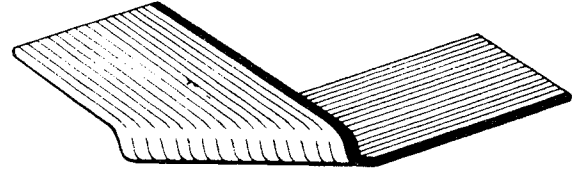
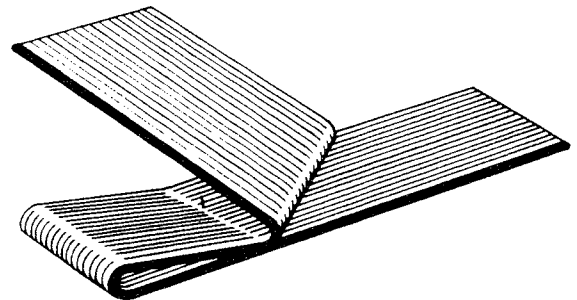

Figure A9 Right Angled Bend - Single Fold
Figure A10 Right Angled Bend - Double Fold
1. Where ribbon cable has to be run flat with a right angled bend the cable can be folded in one of two ways, either a single fold as at Figure A9 or, if this would cause the wrong edge to come out on top, the cable should first be doubled back as at Figure A10.